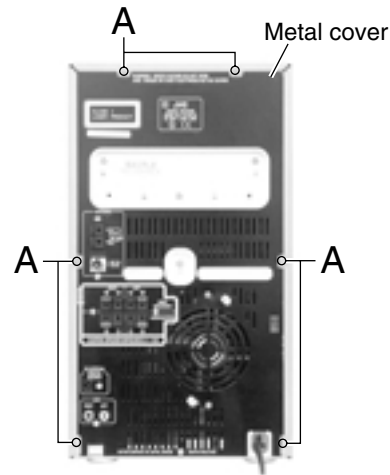

Fig.1
3. CD traverse unit is put up as shown in Fig.1.
(See Fig.1 ~ 3)